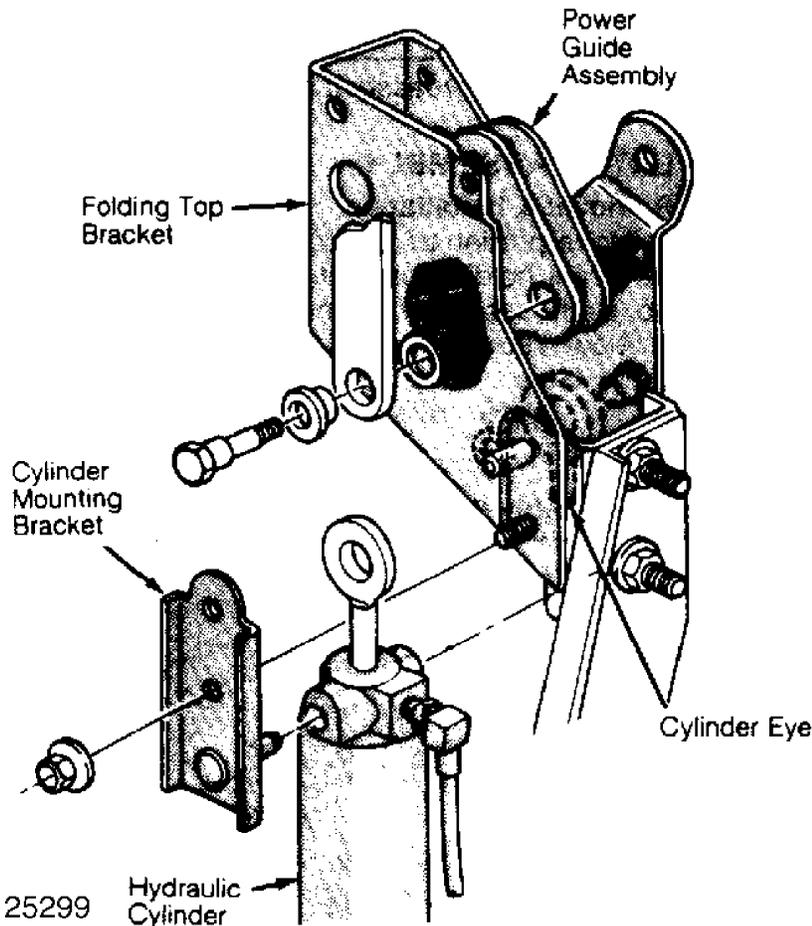

Fig. 2: Hydraulic Cylinder & Mounting Bracket
1) Disconnect negative battery cable. Remove nut and mounting bracket from cylinder. See Fig. 2. Disconnect cylinder eyelet attachment. Retain isolator washer for reassembly.